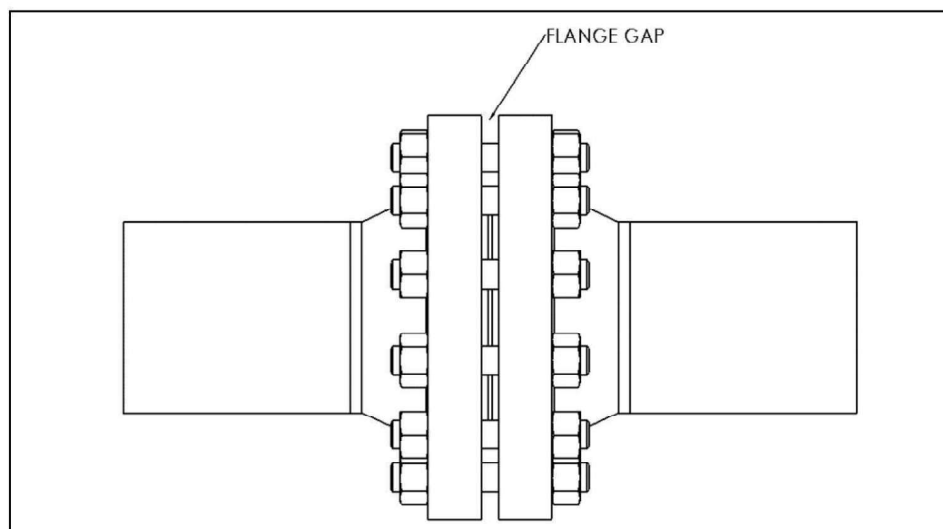

Figure 1
- ☐ The Flange Repair+Ring **will NOT work** for insulating flanges. The Flange Repair+Ring **will only work** for flat face flanges with the addition of Inject-a-Bolts. Contact PLIDCO for additional information on this product. Make sure there is at least 1/16-inch (1.5mm) gap between the flanges (shown in Figure 1). This will ensure injected sealant can reach the studs. Please contact PLIDCO for options if there is no gap.